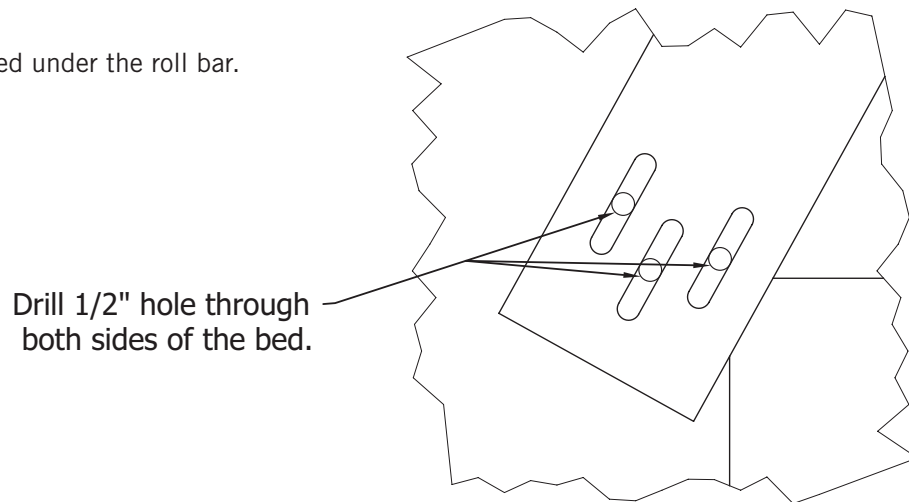

Figure 36-2
4) **Figure 36-2.** Drill six 1/2" holes through the bed, using the slots in the mounting brackets as a guide.